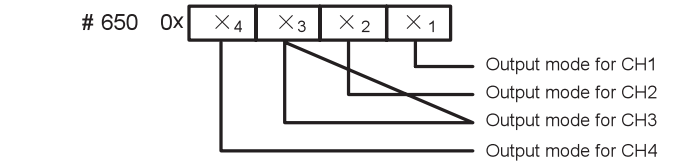

Figure 2-1 Mode setting element vs. channel
4. BFM#650: output mode selection, used to set the output modes of CH1 ~ CH4. See Figure 2-1 for their correspondence.